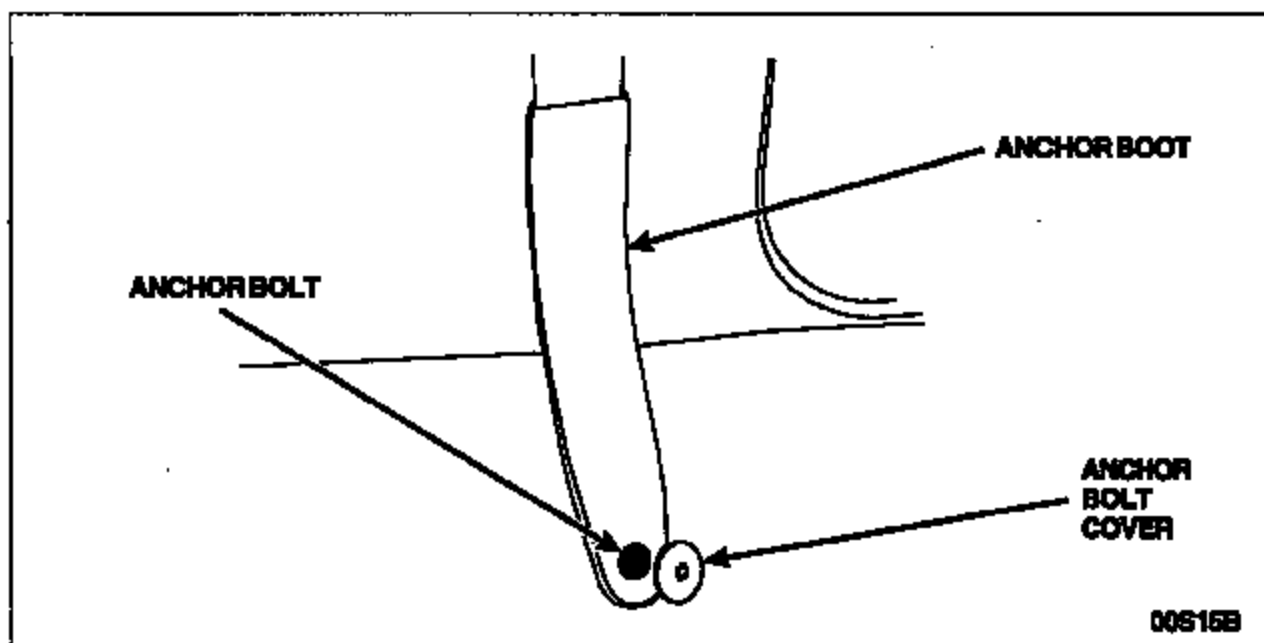

FIGURE 2
- Remove the anchor bolt cover, then the anchor bolt. Cut off the steel washer and remove the rubber washer to allow the bolt to come off, then slide the anchor boot off of the webbing. The build label is folded and sewn into the webbing. See Figures 2 and 3. Proceed to Label Inspection on page 3.